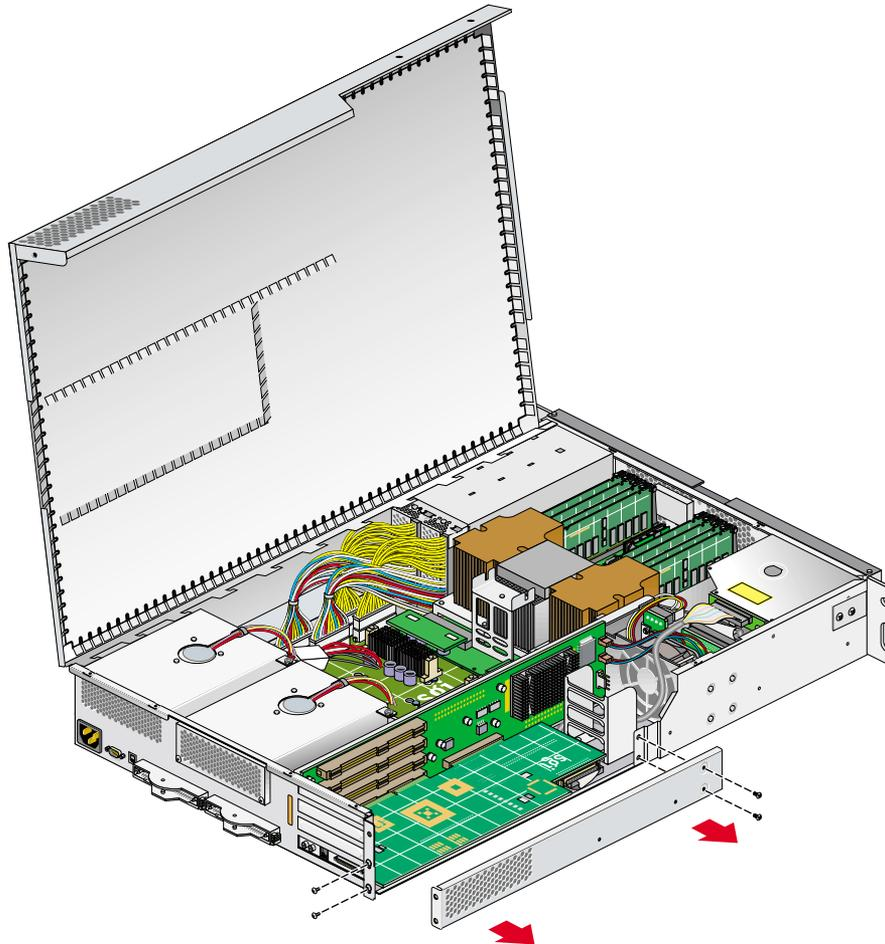

Figure 7-12 Removing the Lower PCI/PCI-X Support Bracket
8. If you are removing a card from one of the two lowermost slots, you must also remove the lower PCI/PCI-X support bracket that covers the two lowermost slots by unscrewing the four Phillips screws, as shown in Figure 7-12.